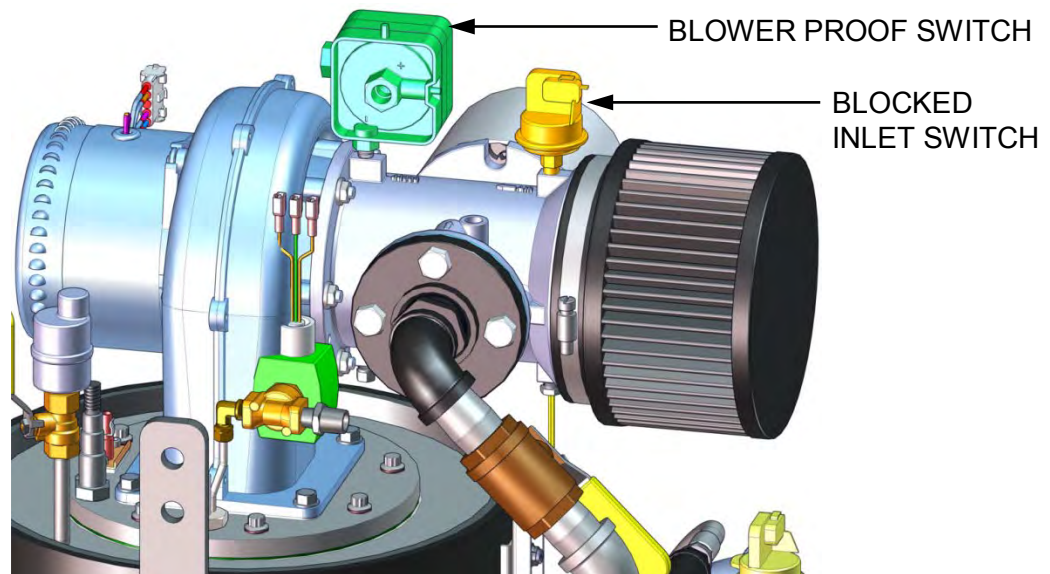

Figure 3-5: Blower Proof Switch
4. Next, the Blower Proof switch on the Air/Fuel Valve (Figure 3-5) closes. The display will show **PURGING** and indicate the elapsed time of the purge cycle in seconds.